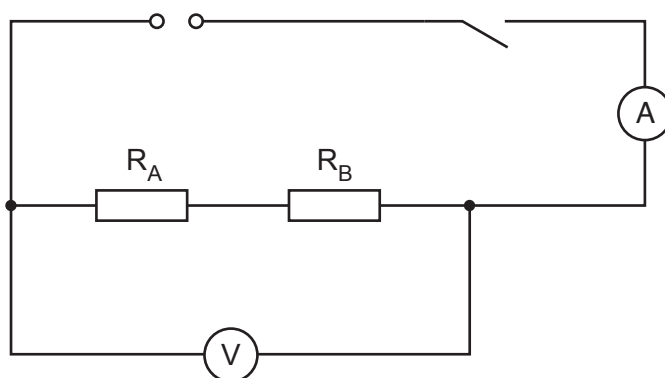

Fig. 2.1
- (vi) Sufficient connecting leads to set up the circuit shown in Fig. 2.1 plus two additional leads.
1. The circuit is to be set up for the candidates as shown in Fig. 2.1.
Rearrange the circuit so that it is set up as shown in Fig. 2.1.